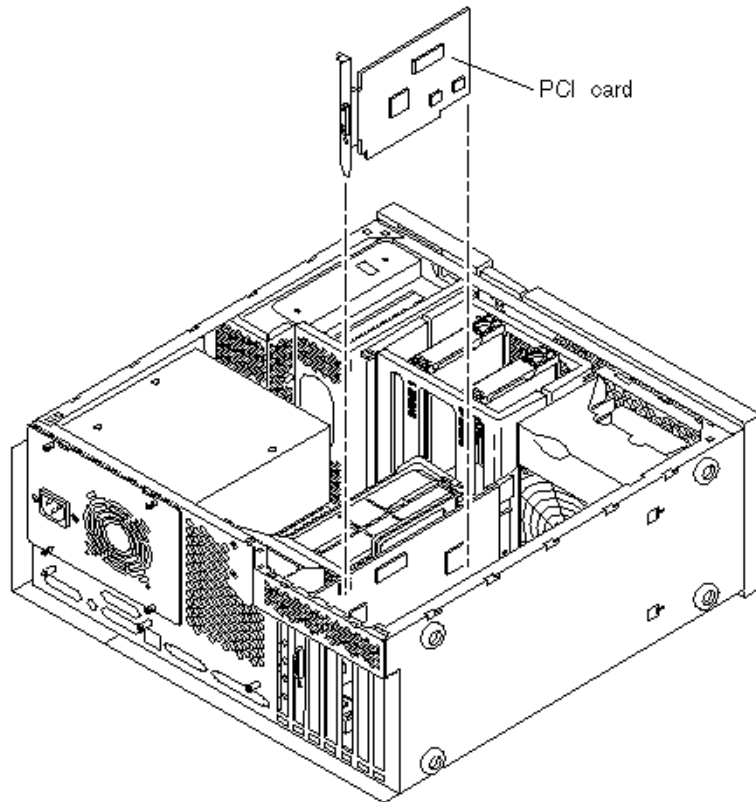

Figure 10-3 Removing and Replacing a PCI Card
5. Remove the PCI card as follows (Figure 10-3):
1. Replace the PCI card as follows (Figure 10-3):